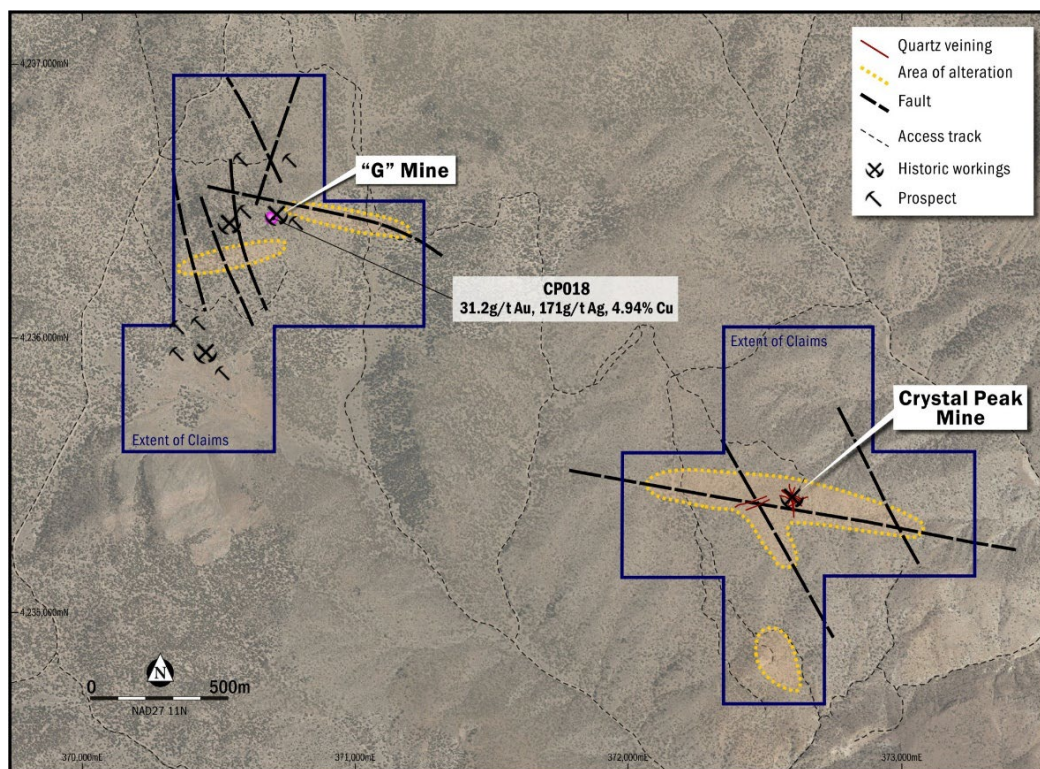

Figure 2: Plan view of the newly staked Crystal Peak and G Mine showing structure, alteration and main prospect areas and G Mine rock chips locations.
- Initial sampling returns 1,880g/t Ag from a quartz stockwork zone at Crystal Peak and 31.2g/t Au from G Mine area associated with copper up to 4.94% (see figure 2).
Alteration about the stockwork zone and along through-going structures is characterised as proximal quartz-sericite-pyrite within a larger argillic alteration halo (*see figure 2*). Typically, the quartz stockwork is made up of continuous to semi-continuous linear veins up to 10cm wide at various attitudes to each other (*see photo 1*). While there are some prominent low angle veins many of the veins are sub-vertical, suggesting good potential at depth. Within the stockwork, vein density ranges from 3 veins per meter up to 15 veins per meter where veins account for up to 85% of the rock by volume. Within the larger stockwork area some consistently more sheeted quartz vein zones are observed.